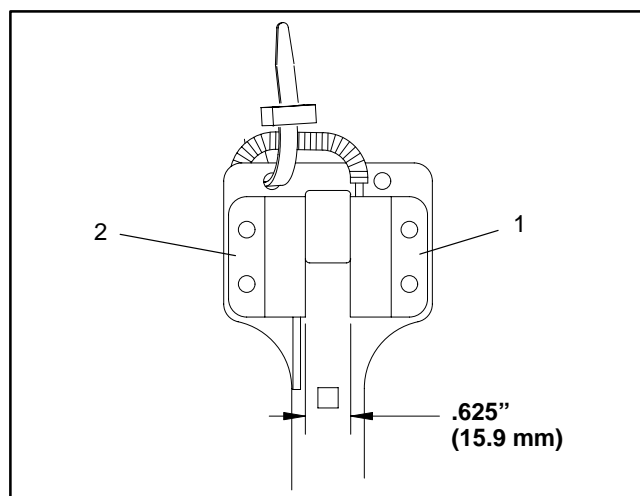

Figure 7
A. The distance between switches should be approximately .625" (15.9 mm) (Fig. 7).
B. The lever bracket (item 4) should be parallel with the center deck lift/lower lever. If lever bracket adjustment is needed, loosen flange bolts (item 6) and reposition lever bracket.
C. Switch surfaces need to be parallel to each other and also to the switch actuator on center lift/lower lever (item 9). If necessary, switch plate (item 3) can be rotated after loosening flange nut (item 5).